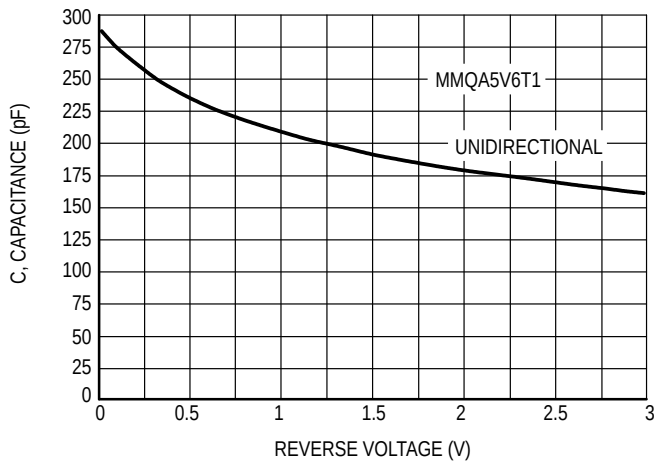
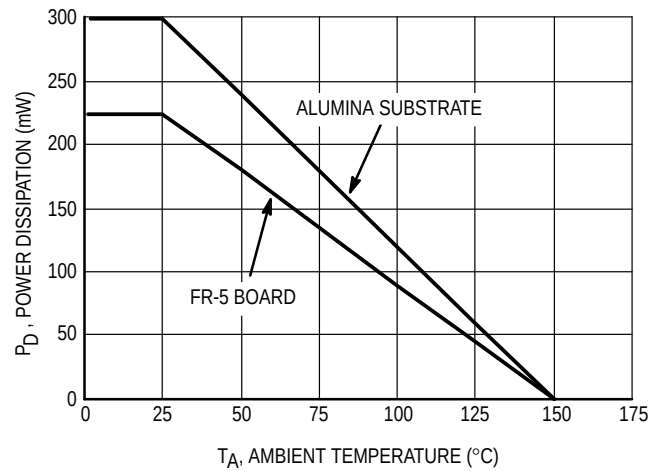

Figure 5. Typical Capacitance versus Reverse Voltage
Figure 6. Steady State Power Derating Curve
(3) V_Z measured at pulse test current I_T at an ambient temperature of 25°C.
(4) Surge current waveform per Figure 5 and derate per Figure 6.
(5) Z_{ZT} is measured by dividing the AC voltage drop across the device by the AC current supplied. The specified limits are I_{Z(AC)} = 0.1 I_{Z(DC)}, with AC frequency = 1 kHz.